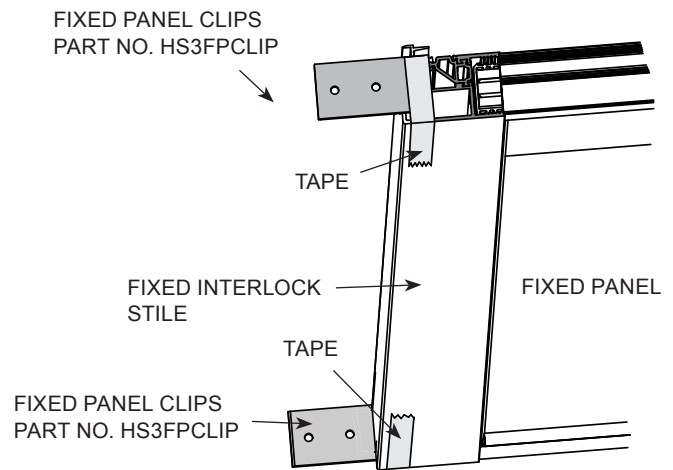

FIG. 19
2. Attach two L-shaped anchor clips to the fixed interlock. Insert and temporarily tape the fixed panel clips in place on the outside top and bottom of the fixed interlock. (FIG. 19)